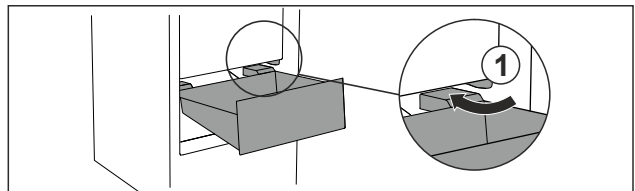

Fig. 84
- ▶ Guide drawer in at an angle around the stoppers Fig. 84 (1).